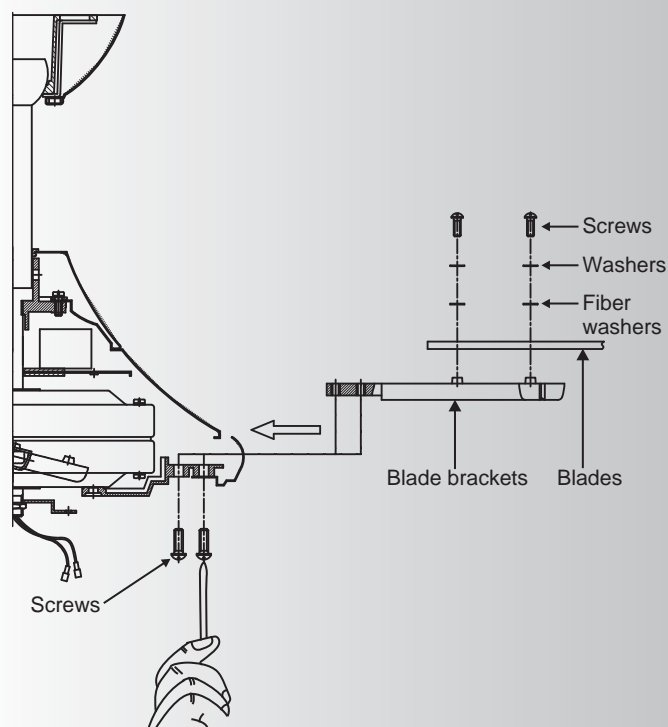

Fig. 16
Step 1. Attach a blade to a blade bracket using the screws, metal washers and fiber washers provided. (Fig. 16)
Step 2. Attach each blade assembly to the motor using two mounting screws in the blade bracket. (Fig. 16)